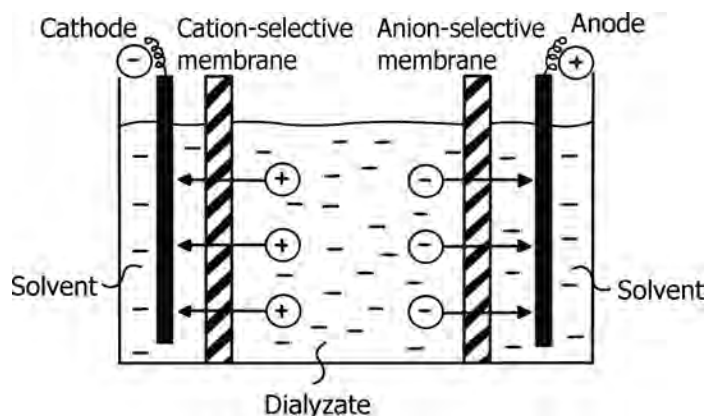

FIGURE 18.63 Electrodialysis.
- Figure 18.63 illustrates the principle involved in electrodialysis.